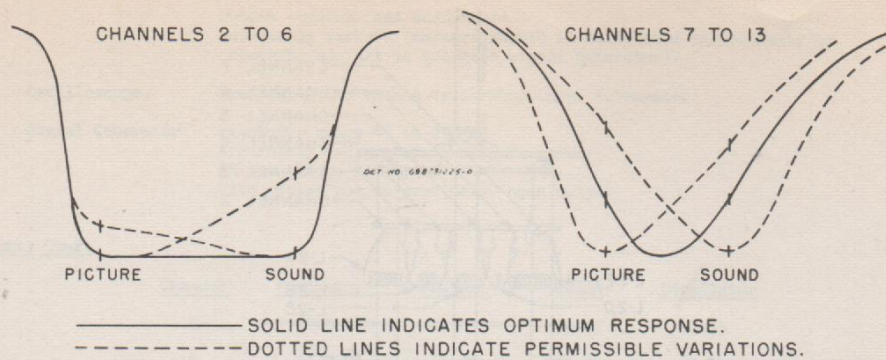

FIGURE 9. RF RESPONSE CURVES
6. The antenna coils are tuned to the video carrier frequency and the RF coils are tuned to the sound carriers. Figure 9 shows the shape of the curve which should appear on the oscilloscope.
NOTE: As the bandwidth of the high channels is very broad, the mid-frequency marker may not fall exactly at the peak of the curves. A slight variation is permissible, as shown in Figure 9.
9. Check the low channels, starting at channel 6 and moving downward to channel 2. In each case, with the center frequency of the sweep generator at the channel center frequency, introduce markers corresponding to sound and picture carriers and compare with curve in Figure 9. It is permissible for the markers to appear slightly down on the skirt, but if they are too low (more than 6 db down), the curve may be changed by moving or bending the particular coil section. The RF coil affects the sound carrier and the antenna coil affects the video carrier.
NOTE: A convenient method for determining if an antenna or RF coil is tuned correctly is to insert an iron or brass core into the coil. Brass decreases the inductance, and iron increases the inductance. The coil is properly tuned when the curve appears as in Figure 9.